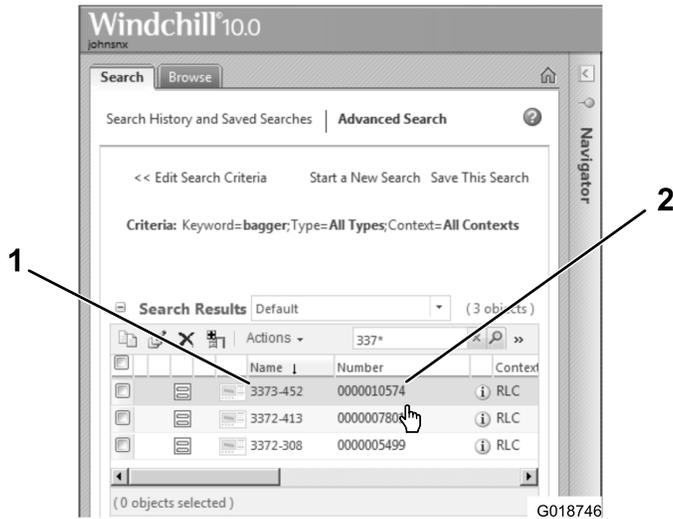

Figure 46
- Remove the dipstick (Figure 46) and slowly pour oil into the fill hole until the oil reaches the upper-limit mark (bottom edge of the oil-fill hole) on the dipstick.